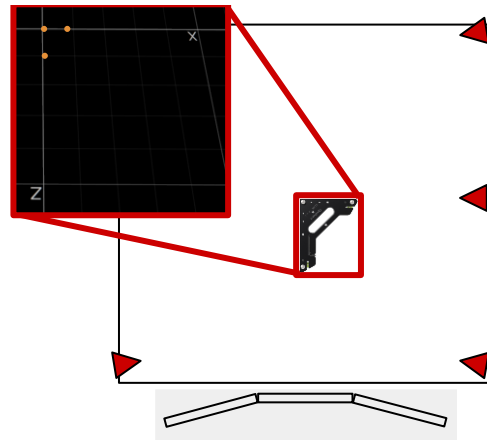

Figure 6. Positioning the CS-200 ground square
1. Place the CS - 200 ground square inside the workspace as shown in Figure 6a. The marker on the right-angle corner of the square represents the origin of the reference coordinate frame used by Motive to compute the tracking data. Note that the z axis on the square must point towards the user (Figure 6). This will ensure that all frame assignments in the Autonomous Vehicles Research Studio applications are consistently defined.